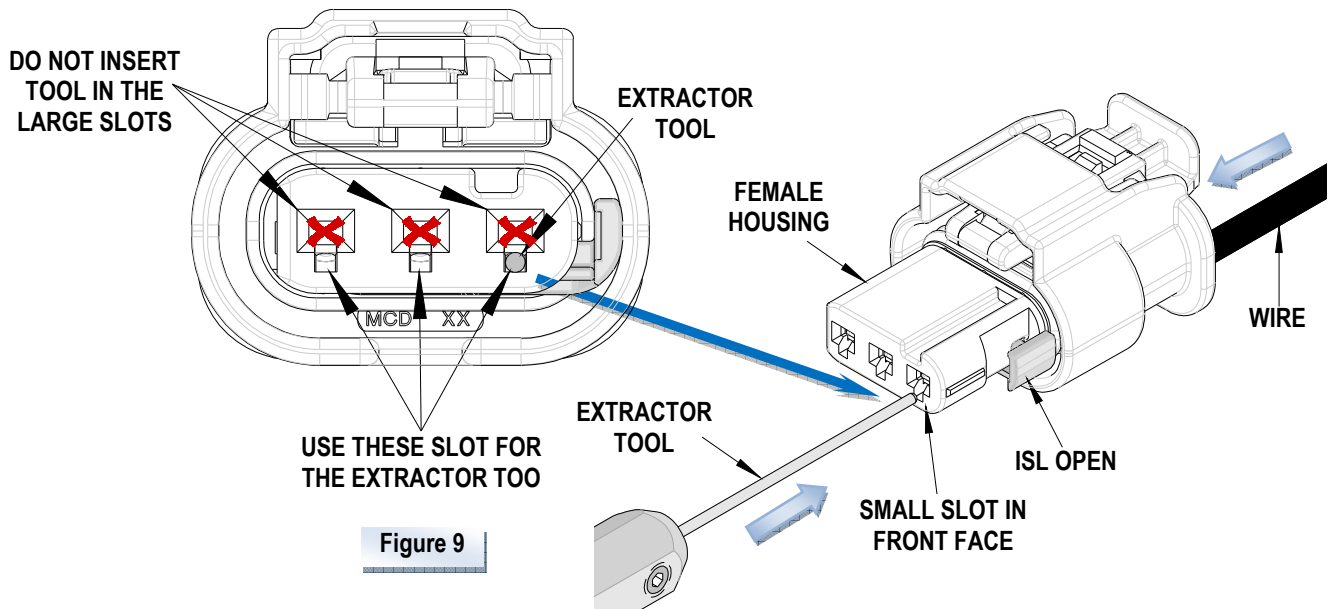

Figure 9
2. Using the 63824-2900 tool, position the blade of the extraction tool into desired small slot (in line with the terminal to be removed) in the front face of the female housing as shown in Figure 9.